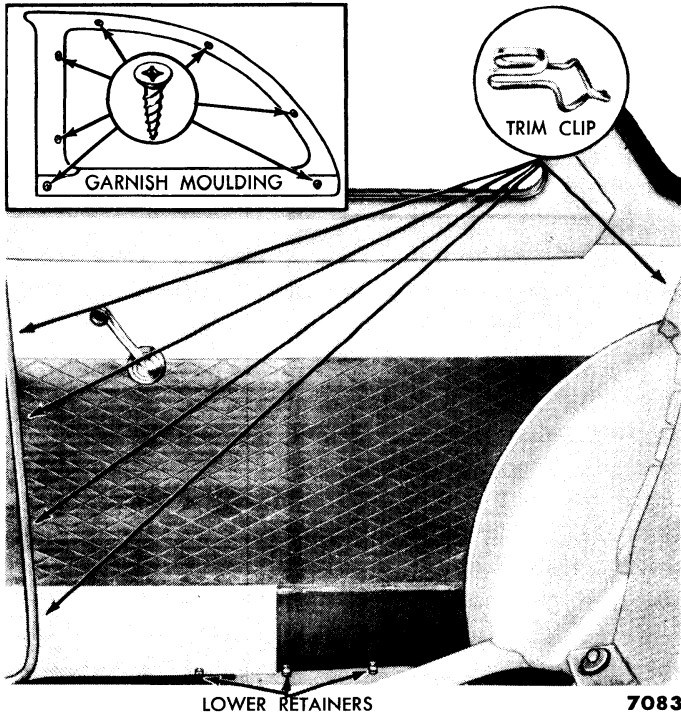

Fig. 5—Tudor Quarter Trim Panel
(1) **TUDOR.** If only the trim panel is to be removed, it is not necessary to remove the garnish moulding. Remove the arm rest and spacers, then remove the seat and seat back. Remove the window regulator handle as shown in fig. 1. Release the quarter panel clips along the pillar and at the rear (fig. 5). Bend the lower retainers down and remove the two lower garnish moulding screws. Bow the trim panel slightly and slide it out from under the garnish moulding.
To install, bow the trim panel slightly and slide it under the garnish moulding. Bend the lower retainers up against the panel (fig. 5), align the forward edge of the trim panel with the pillar, and secure the clips. Secure the clip at the upper rear corner and install the window regulator handle. Install the two lower garnish moulding screws. Install the seat back, arm rest and spacers, and seat.
To remove the garnish moulding, remove the garnish moulding screws (fig. 5). Pull the garnish moulding out at the top, then raise it off the quarter panel flange.
To install, position the garnish moulding over the flange of the quarter panel, then press the garnish moulding in at the top. Align the holes, and install the garnish moulding screws (fig. 5).